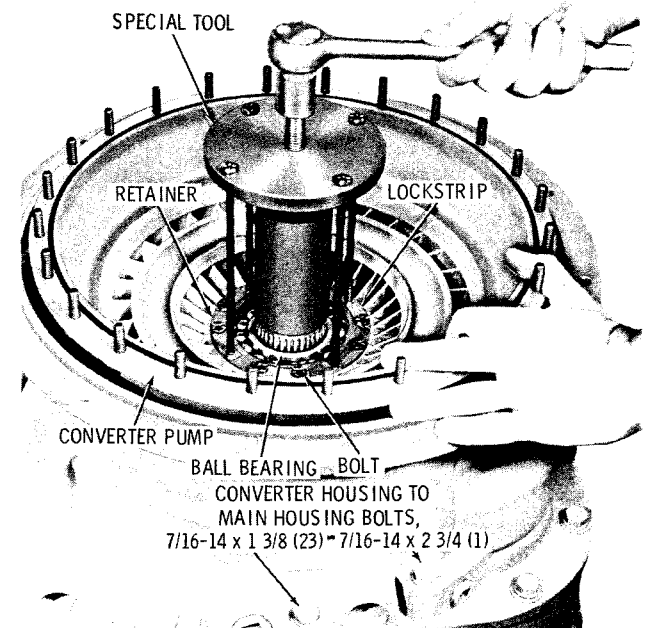

Fig. 5-12. Removing converter pump assembly
(4) Flatten the corners of the lockstrips and remove four bolts (spaced at 90°) from the converter pump hub. Install a suitable puller assembly (refer to fig. 4-1) and remove the pump assembly (fig. 5-12).